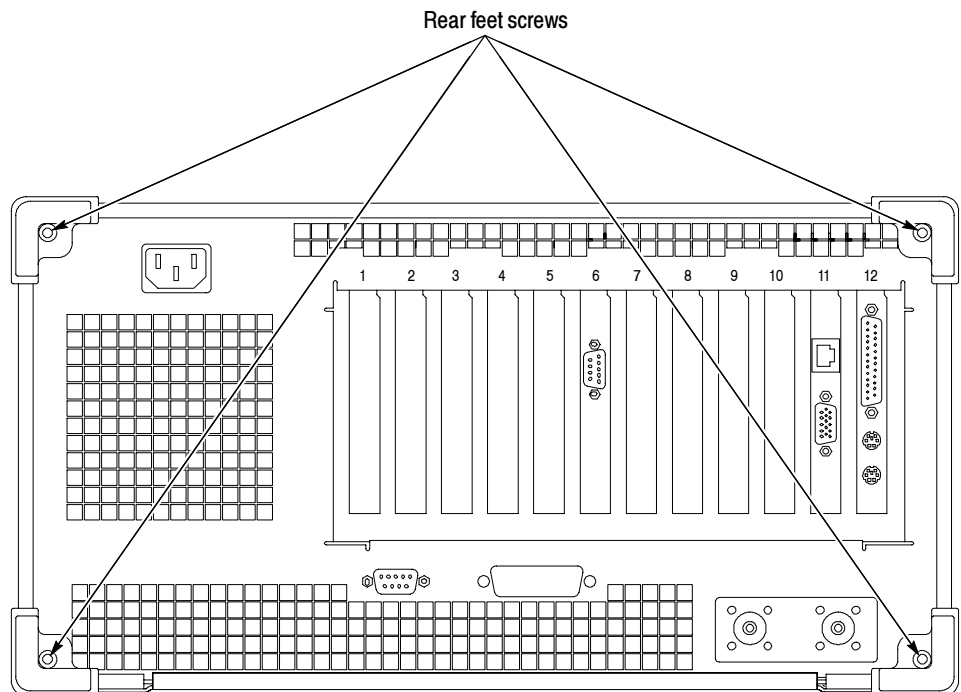

Figure 2: Rear-panel feet removal
6. Remove the screws from the four rear-panel feet (see Figure 2).